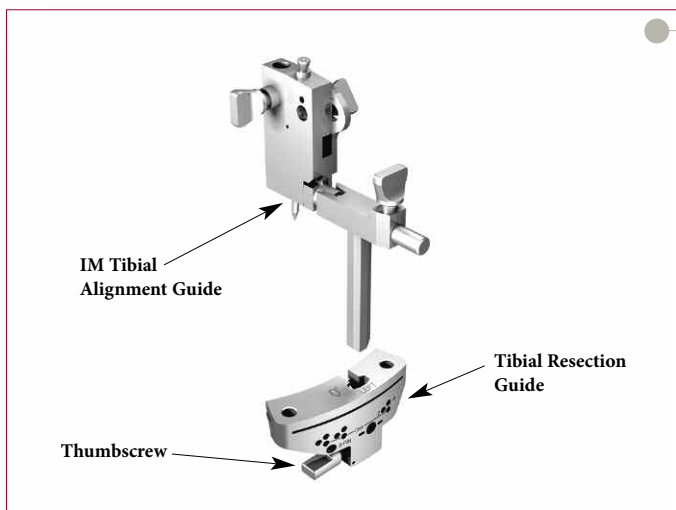

Figure 61
- ▶ Assemble the appropriate Tibial Resection Guide to the IM Tibial Alignment Guide by sliding the Tibial Resection Guide onto the rail of the alignment guide and tightening the thumbscrew on the resection guide (**Figure 61**).